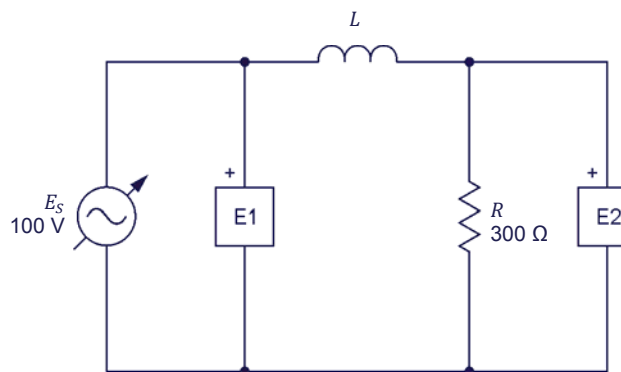

Figure 1-15. AC circuit with a resistor and an inductor.
6. Set up the circuit shown in Figure 1-15. This circuit contains a resistor R and an inductor L . Inductors are studied in the next unit of this manual.
The value of inductor L in the circuit of Figure 1-15 is referred to as the inductance and is expressed in henries (H). The inductance value to be used depends on the frequency of the ac power source as is indicated in Table 1-2.